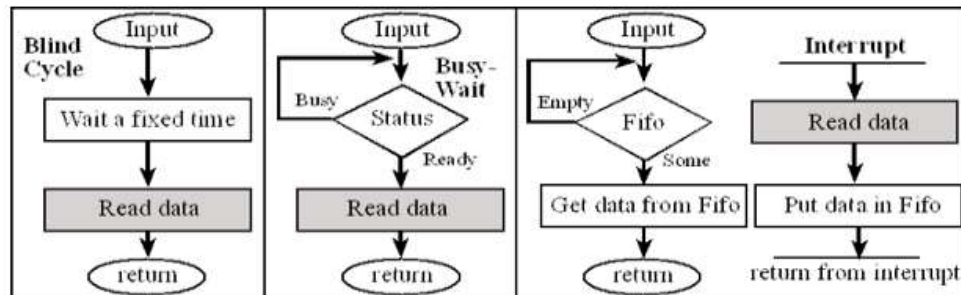
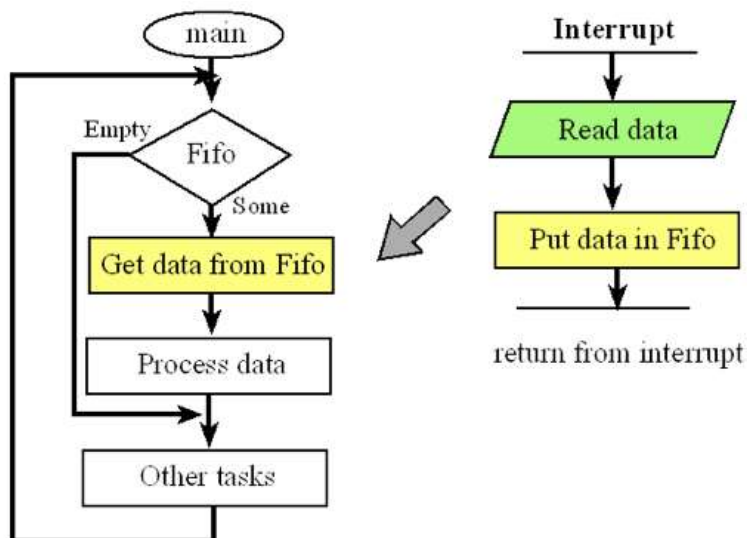

Figure 11.1. Synchronization Mechanisms
Figure 12.2. For an input device we can use a FIFO to pass data from the ISR to the main program.
Read section 11.1, I/O Synchronization, in the VYES book, stopping before Interactive Tool 11.3 [http://users.ece.utexas.edu/~valvano/Volume1/E-Book/C11\\_SerialInterface.htm](http://users.ece.utexas.edu/~valvano/Volume1/E-Book/C11_SerialInterface.htm) (note that the interactive tools in this chapter may only work in the Firefox browser, and if so, ignore them). Read about the synchronization mechanisms shown in figures 11.1 and 11.2. See also Figure 12.2 from the VYES book, which shows the third (interrupt) mechanism as well as how a main program executes other tasks.
Refer to VYES Figure 11.1. Assume we are using UART1 as in Lab 6. Identify one register from the list above for each question below. A register will be used for only one answer.
- a. Which register would be read in the "Read data" box in Figure 11.1?